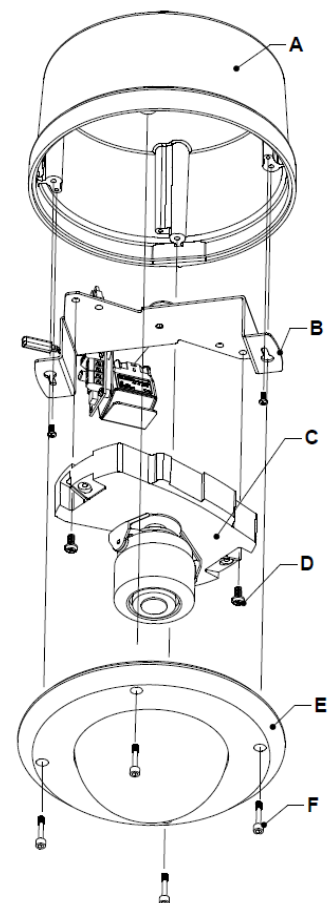

Figure 1
COMPONENT LIST [Figure 1]
4. Mount the Camera with Camera Bracket Assembly into the housing (see Figure 1),
7. Attach the dome assembly to the base housing by tightening the four (4) hex screws using the included hex wrench.